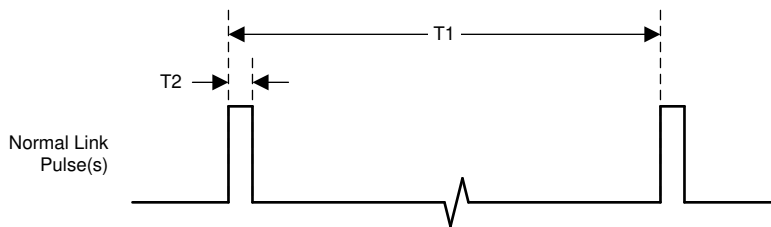

Figure 6-13. Normal Link Pulse Timings
- (1) Specified by production test, characterization, or design.
(2) See Figure 6-13.